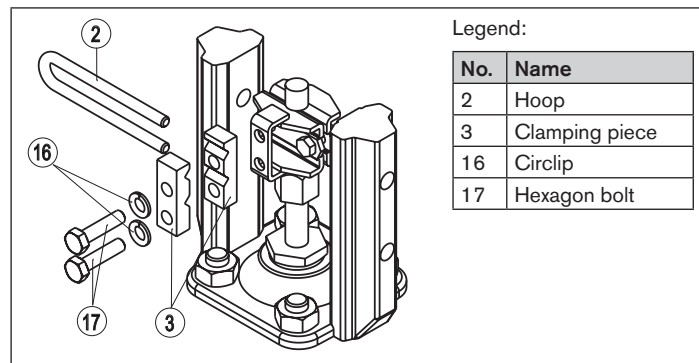

Fig. 25: Attaching the hoop
! The conical roller ⑤ on the lever ⑥ of the position sensor must be able to move freely in the hoop (refer to “Fig. 25: Attaching the hoop”) along the entire stroke range of the actuator.